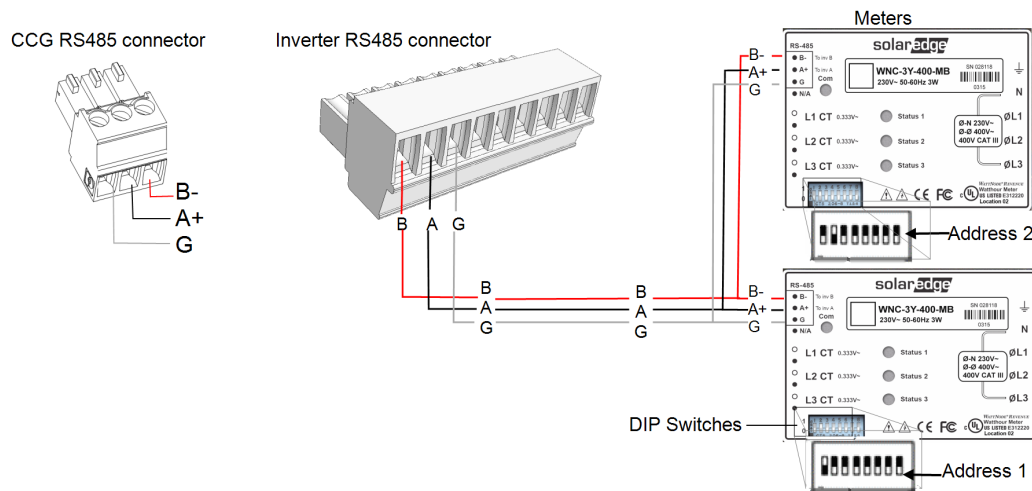

Figure 10: Meters connection to the inverter or CCG RS485 connector
1. Connect the twisted pair of wires to the meters as shown in Figure 10.